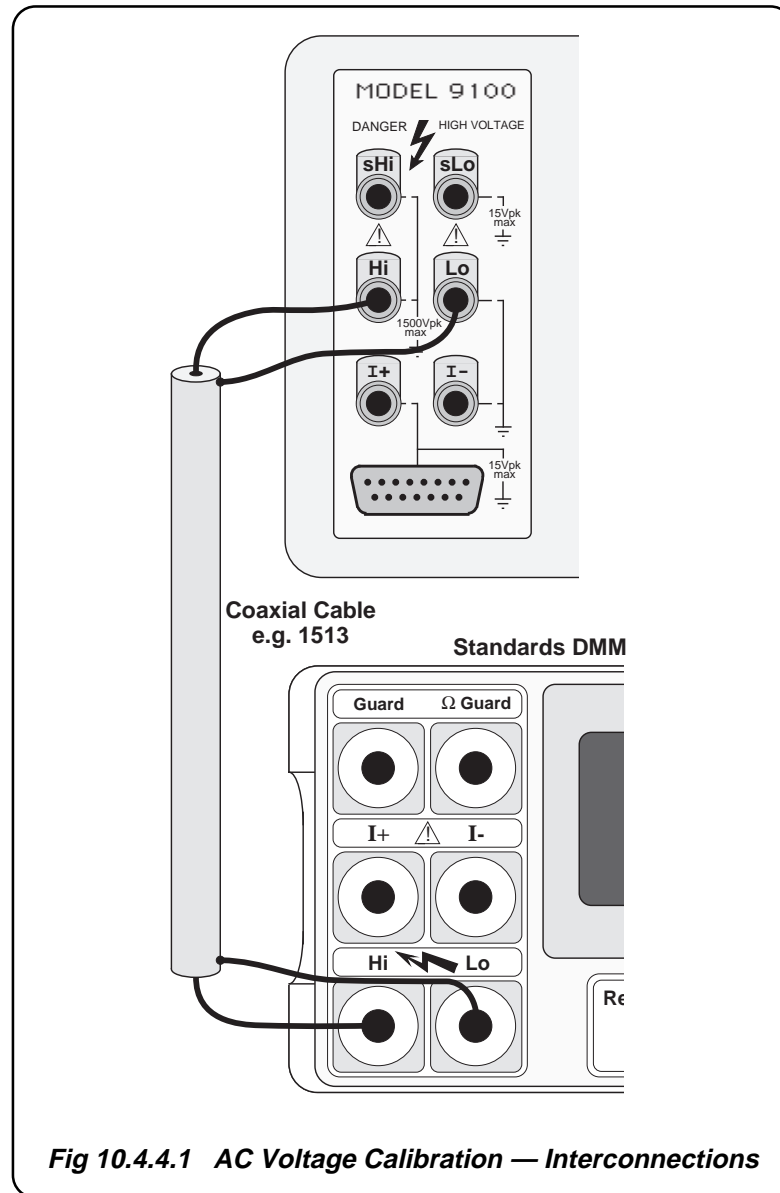

Fig 10.4.4.1 AC Voltage Calibration — Interconnections
1. **Connections** Ensure that the 9100 is connected to the Standards DMM as shown in *Fig. 10.4.4.1*, and that both instruments are powered on and warmed up.